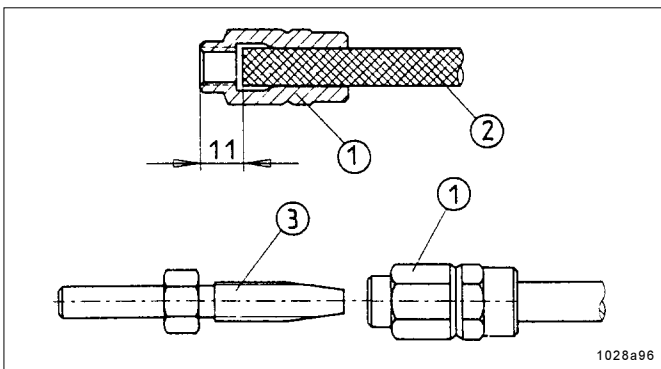

Fig. 31 - Preassembly of threaded sleeves and hose studs on the main line.
* Screw the threaded sleeve (item 1, Fig. 31) counterclockwise onto the high-pressure plastic hose (2) until the illustrated dimension of 11 mm is reached. Then screw the hose stud (3) into the threaded sleeve (1).